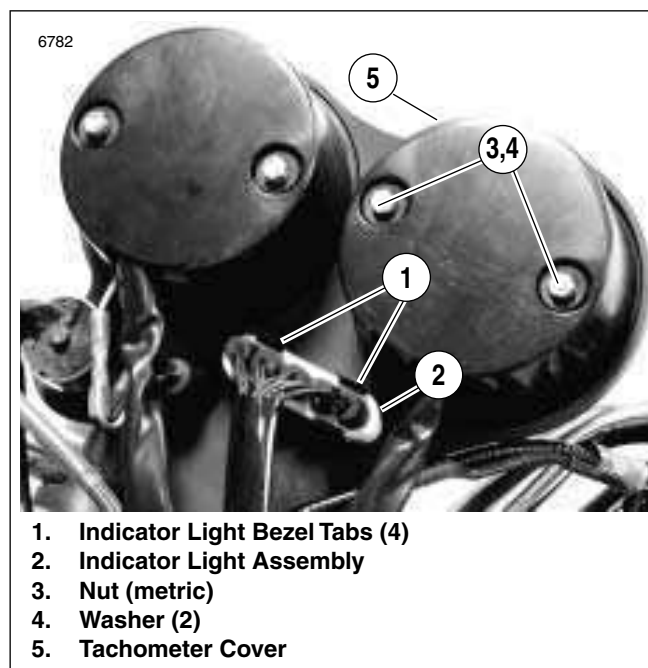

Figure 7-61. Back Dash Panel
3. See Figure 7-61. Remove two nuts (metric) (3) and lock-washers (4) from tachometer cover (5).
4. Slide tachometer cover (5) away from tachometer.